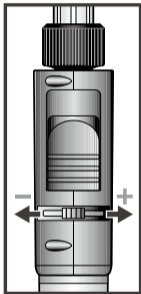

Fig.3
1. Set **Gas Control Lever** at **mid position**. (Fig. 3)